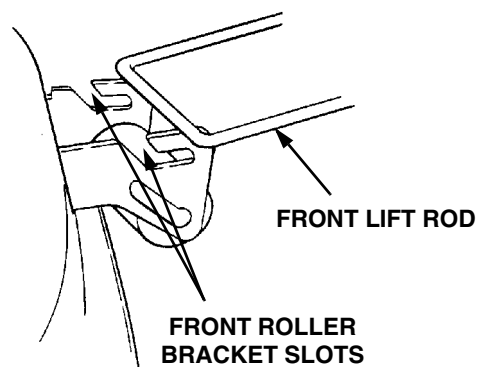

Figure 45
7. Raise the tractor implement lift handle to its highest setting. Roll the mower deck forward until the front lift rod slides up and out of the openings of both front roller bracket slots. Manually lift the rod out of the slots if necessary (Refer to Figure 45).
8. Raise the front lift rod upward and slide the mower deck rearward. Lower the front lift rod so it rests on the front roller bracket of the deck, forward of the slots (See Figure 45).